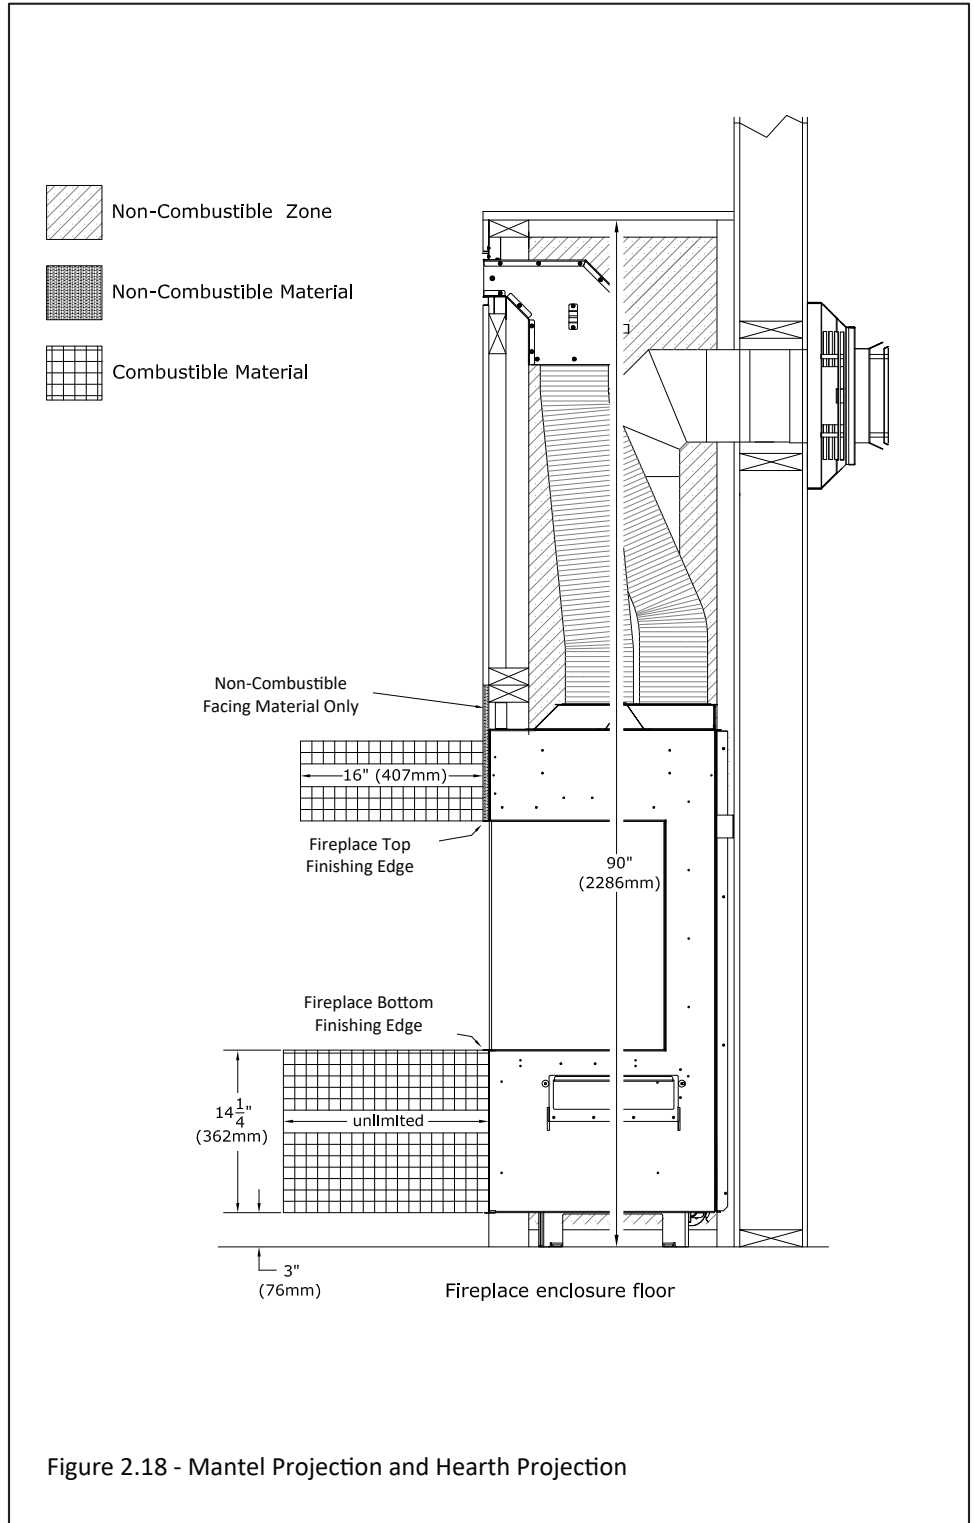

Figure 2.18 - Mantel Projection and Hearth Projection
- **Combustible Mantel Projections:** A maximum of a 16" (406mm) mantel can be installed flush at the side and top finishing edge. See Figure 2.18
- **Combustible Hearth:** Combustible hearth can have an unlimited projection. Hearth can be raised flush to the bottom finishing edge. See Figure 2.18.